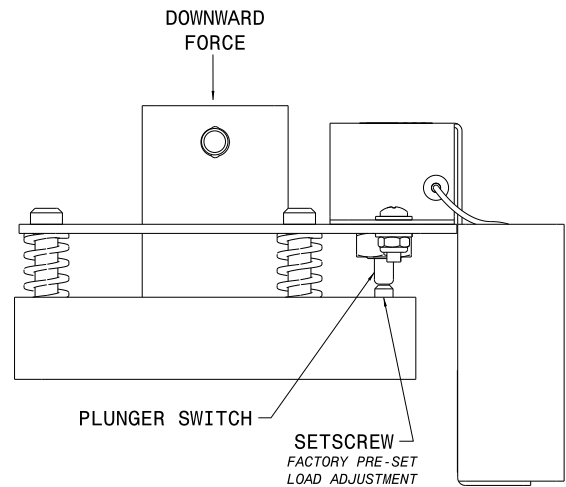

Figure 2
1. Depress the plunger switch to check electronic circuit. The alarm will sound when the switch is engaged. (see Figure 2)
2. Test alarm by slowly applying an evenly distributed force of 100 to 150 lbs (45.36 to 68.04 kg) across the top of the cradle. The top plate of the load alarm kit will lower and engage the plunger switch. A loud pulsating alarm will then sound. If alarm does not sound, refer to the Troubleshooting section. (see Figure 2)